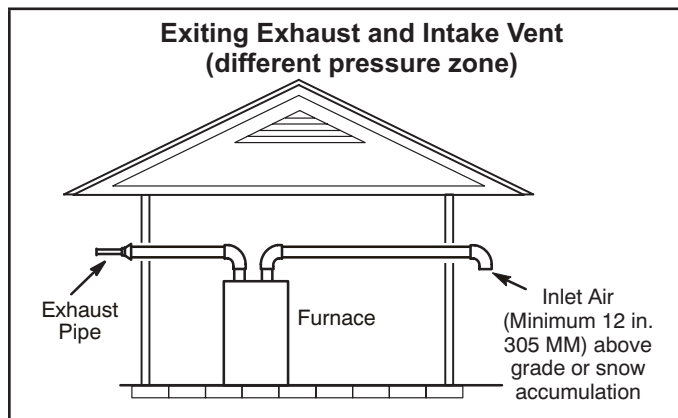
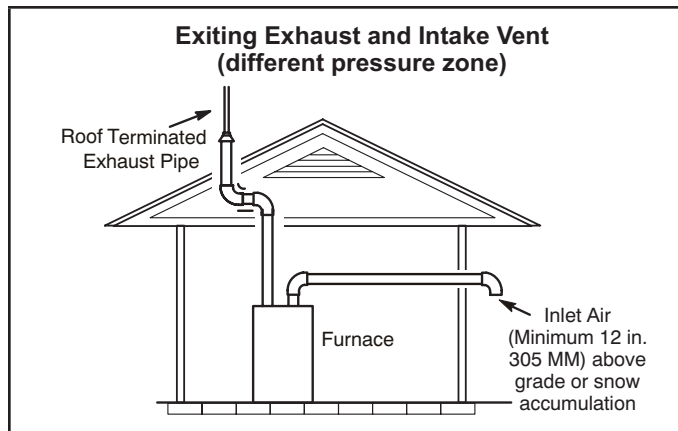

FIGURE 23
FIGURE 24
- 1 - Intake and exhaust terminations are not required to be in the same pressure zone. You may exit the intake on one side of the structure and the exhaust on another side (FIGURE 23). You may exit the exhaust out the roof and the intake out the side of the structure (FIGURE 24).